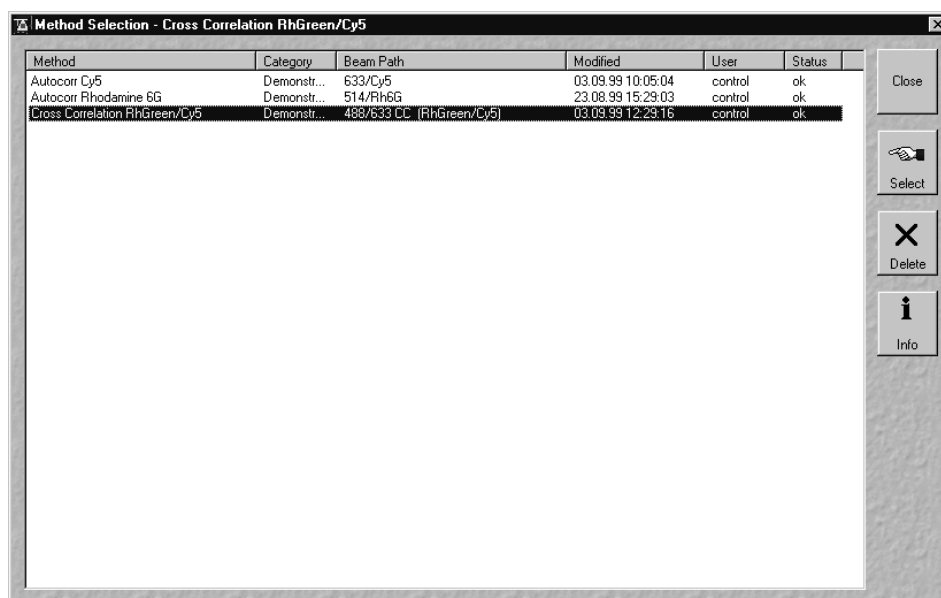

Fig. 3-29 Method Selection ... window
- This opens the **Method Selection ...** window (Fig. 3-29). The name of the currently selected method will appear in the status bar of the window.